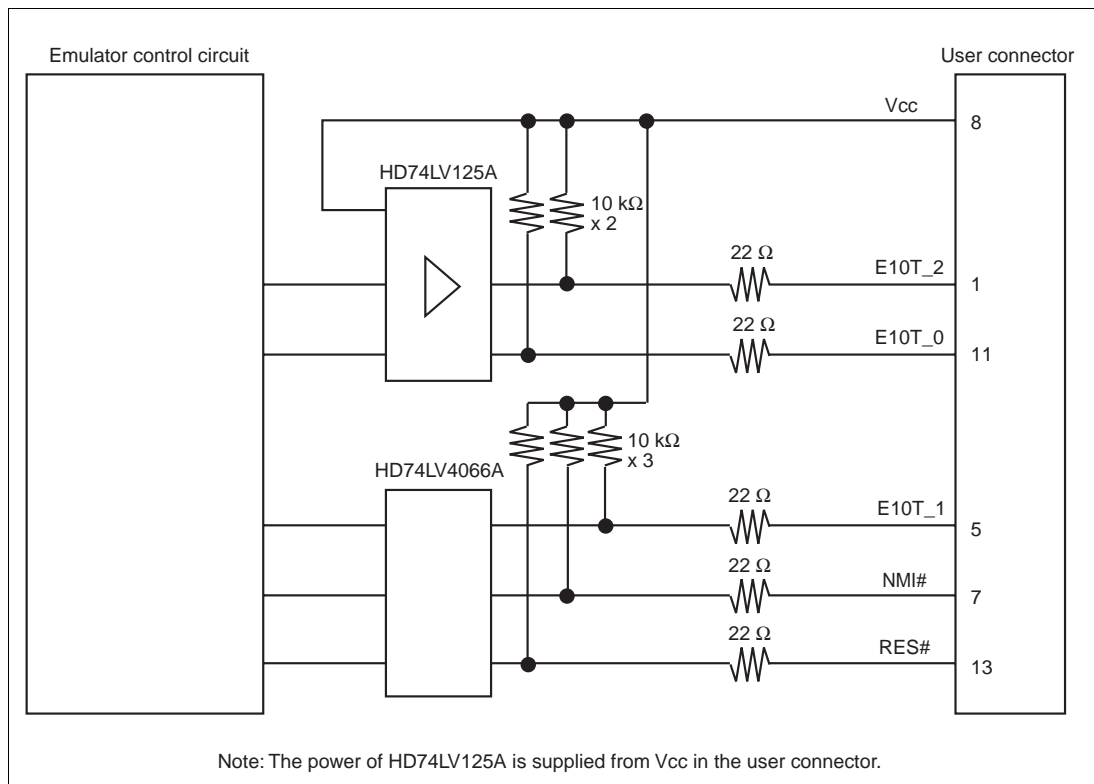

Figure 3.6 Interface Circuit in the Emulator (Reference)
8. Figure 3.6 shows the interface circuit in the emulator. Use this figure as a reference when determining the pull-up resistance value.